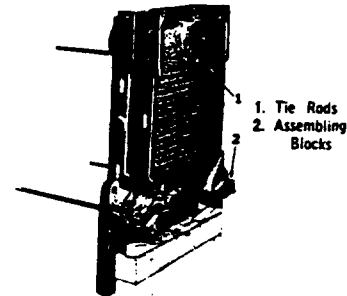

FIG. 2—Assembling Sections
6. Place sections in upright position as shown in Fig. 2 and support with suitable blocking. Sections should stand approximately in their final position with Front facing correctly. (Note—Flow tapping is toward rear of end section.)
Place assembling blocks on lower rods across nipple ports as shown on Fig. 2 placing nuts and washers on all rods. Draw up evenly on nuts until sections make contact at ground joints. Bumping sections with heavy block of wood alternately at nipple ports during drawing up operation will facilitate assembly.